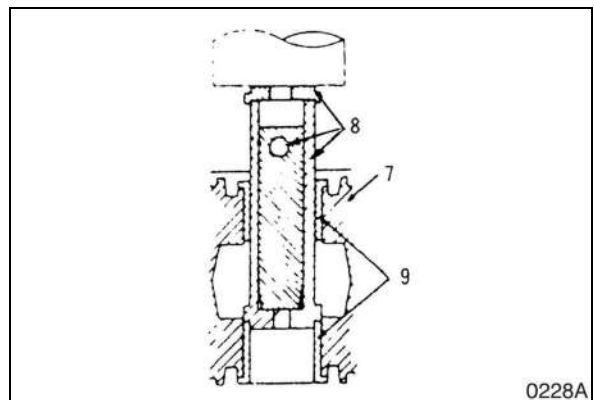

Figure 25
6. Remove bushing (8, Figure 25) with the press and special tool (ST-1909).